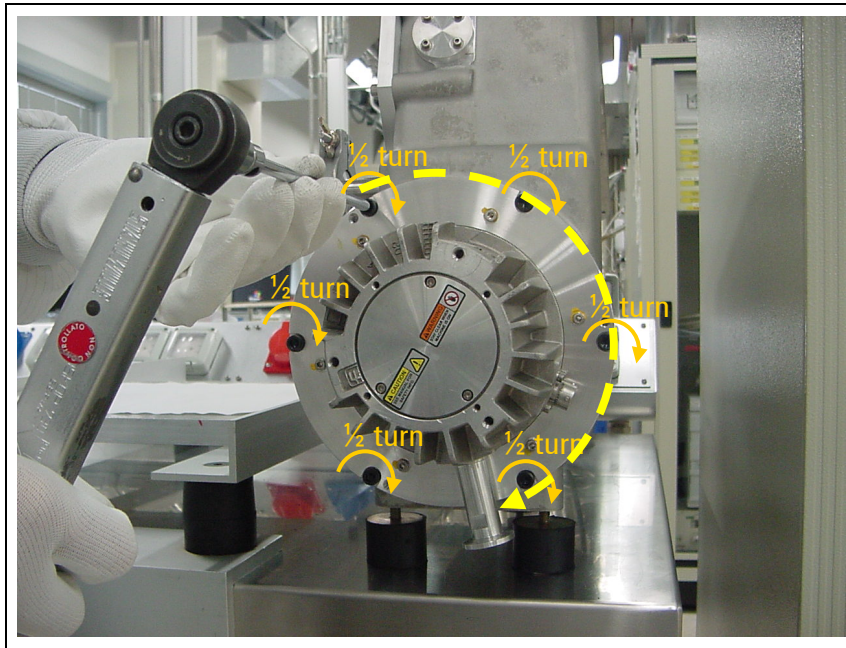

Figure 38
- 4** Screw in the 6 sphere-screws clockwise into the notched smooth holes present on the flange, starting anywhere, and proceeding 1/2 turn/lap, until the pump flange is in contact with the chamber flange (Fig. 38).